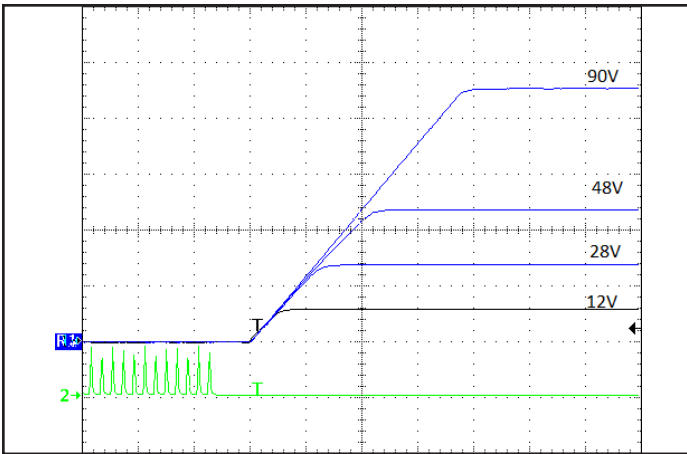

Figure 7: Turn-on transient at 48V input and full load. Top Traces:  $V_{out}$  (20V/div), Ch2: ON/OFF input (5V/div). Timescale: 10 ms/div.
**REMOTE ON/OFF:** Only Negative On/Off logic is available in the converter series: logic high at the input turns the converter Off while a logic low turns in On. Timing of this is shown in Figures 7, 8. A high level can be driven to any voltage between 1.5V and 3.3V, or simply left floating as the unit contains an internal 25KΩ pull-up to 5.0V. The pin can be pulled low (to Vsense-) by an optocoupler, an open-source/drain transistor or wired permanently to Vsense-. To provide noise immunity the input has 0.3V of hysteresis.